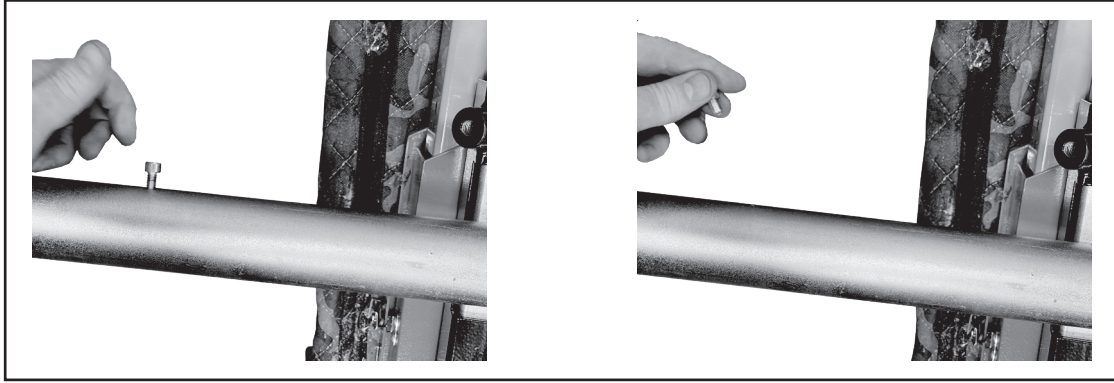
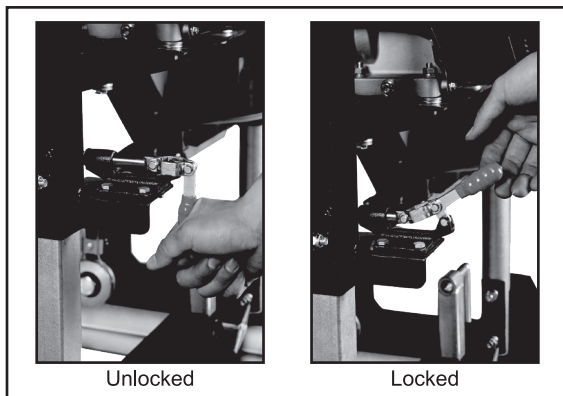
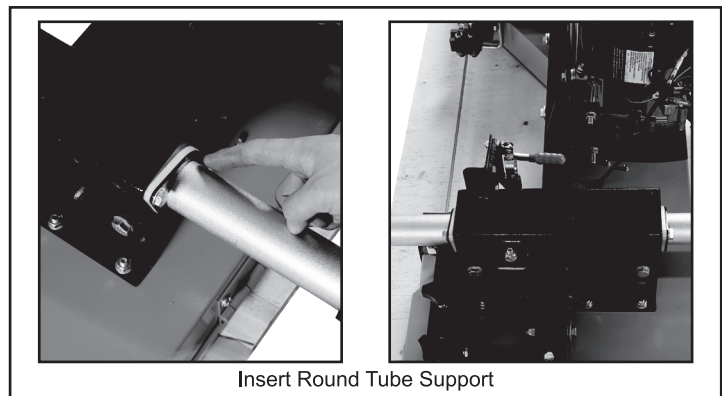
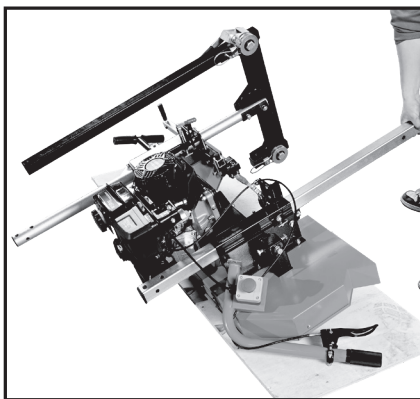

Fig. 20
Fig. 21
Fig. 22
Fig. 23
Step 13: Remove the Round Tube Support stop-screw. Remove the stop-screw from the top of the Round Tube Support (Fig. 20)
Step 14: Assemble the Carriage Base to the Sawmill Head. Check that the Cam Lock Handles are in the unlocked position (Fig. 21). Insert the Round Tube Support on the assembled Left Carriage Base into the Round Tube Support receptacle at the bottom of the Sawmill Head (Fig. 22). Ensure the Carriage Wheels are facing towards the motor. It may be necessary to lift the Sawmill Head in order to insert the Carriage Base. Have a second person raise the Sawmill Head enough so the Left Carriage Base with Round Tube Support can be fully inserted into the Sawmill Head. It may be necessary to insert a pipe into the Square Tube Support to use as a lever to lift the head (Fig. 23). Once the Carriage base is fully inserted, move the Cam Lock Handle into the locked position (Fig. 21). Replace stop-screw that was removed from the top of the Round Tube Support (Fig. 20).